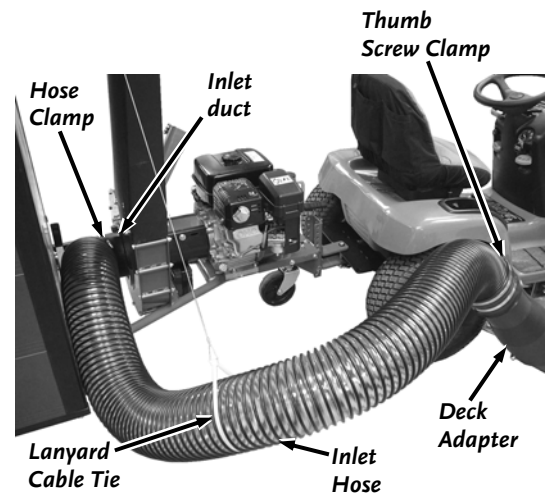

Figure 42
1. Separate the Inlet Hose from the Deck Adapter by unscrewing the Thumb Screw Clamp and pulling the Cuff from the Deck Adapter (**Figure 42**).